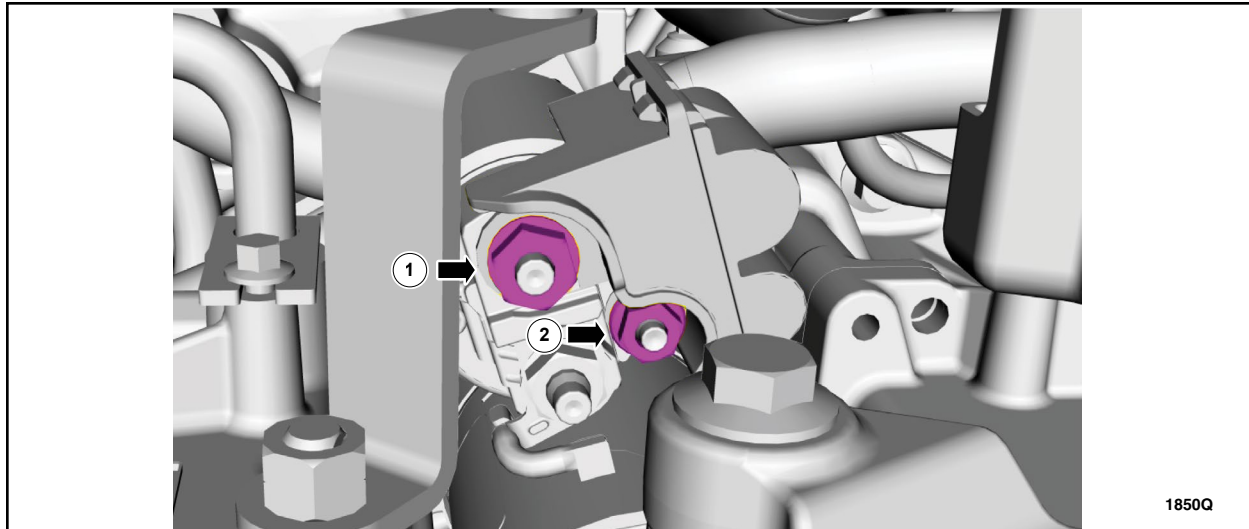

FIGURE 20
4. Inspect the starter motor battery positive cable nut and stud and the starter control wire nut and stud for cross threading or damage and torque both nuts. See Figure 20.